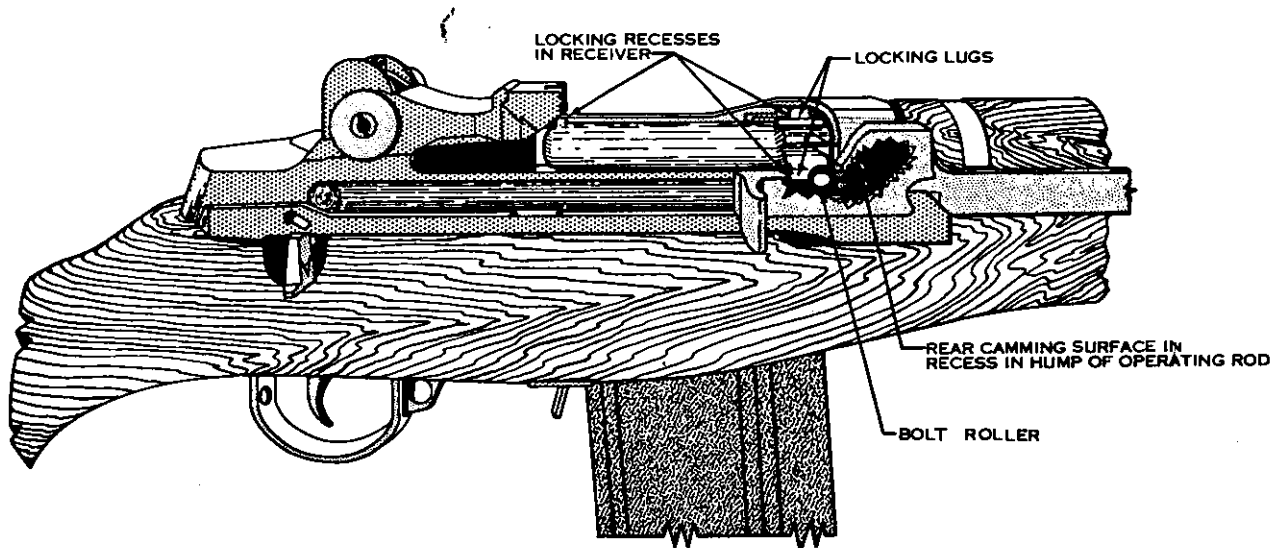

Figure 32. Locking.
- (3) *Locking.* Locking begins as the bolt roller engages the camming surface in the hump of the operating rod. It is completed when the locking lugs of the bolt are fully seated in the locking recesses of the receiver (fig. 32).
- (4) *Firing.* Firing occurs when the firing pin strikes the primer. As the trigger is pulled, the trigger lugs are disengaged from the hammer hooks and the hammer is released. The hammer moves forward